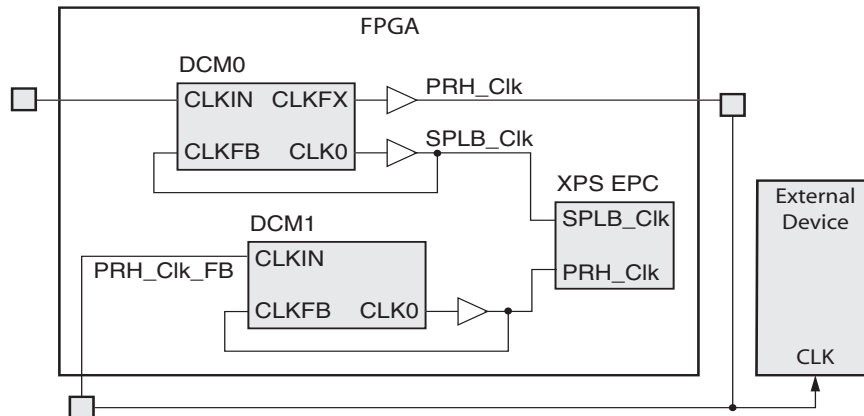

Figure 5: External Peripherals clocked by FPGA output with feedback
**Figure 5** illustrates a block diagram of one of the methods for generating a device specific clock source using two DCMs. The DCM modules are located within the FPGA but are external to the XPS EPC IP Core. An external clock source is used to generate the XPS clock (SPLB\_Clk) to the XPS EPC. The device clock source (PRH\_Clk) is also generated from the same DCM (DCM0) using the CLKFX output and must be routed on the board to be fed back to the FPGA. The parameters of DCM0 like C\_CLKFX\_MULTIPLY and C\_CLKFX\_DIVIDE should be set according to the required frequency